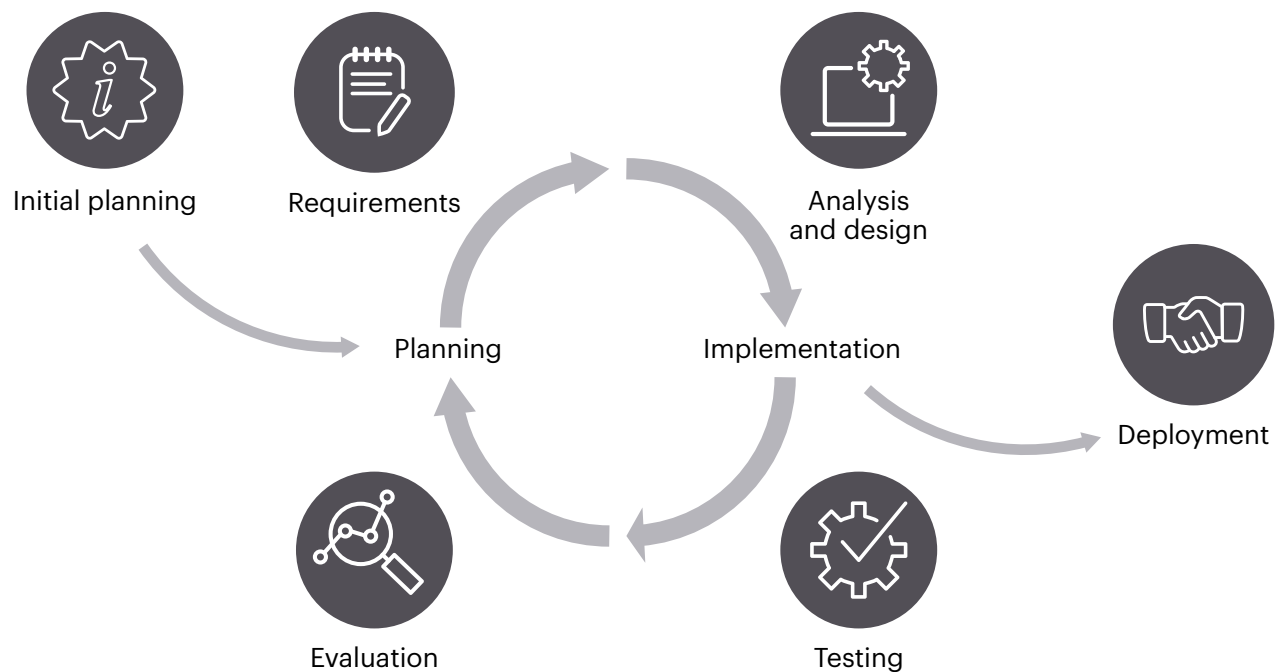

Figure 5. Iterative and incremental process model
- As shown in Figure 5, every iteration of the product design process requires planning, design, development, testing, and evaluation. CAD modeling tools accelerate virtual design optimization and provide predictable results with fewer physical iterations. As a result, the final design aligns more closely with requirements and is achieved in less time than without these tools.